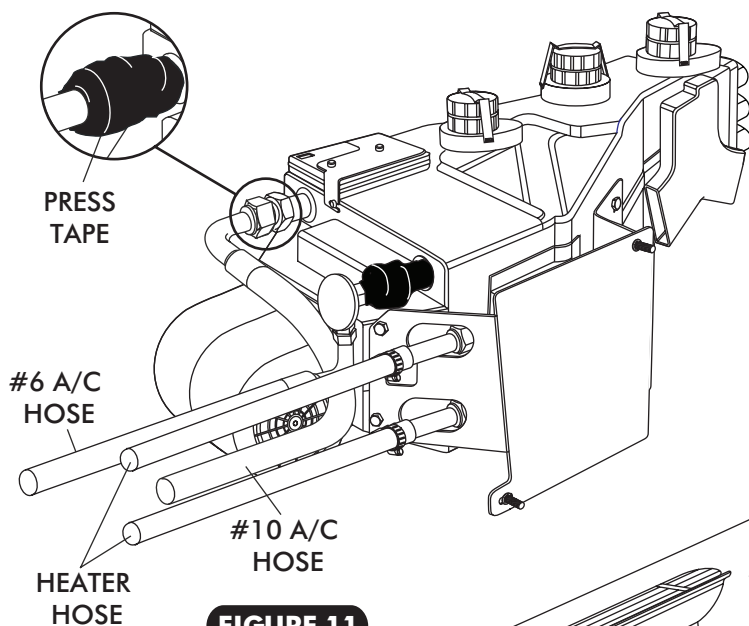
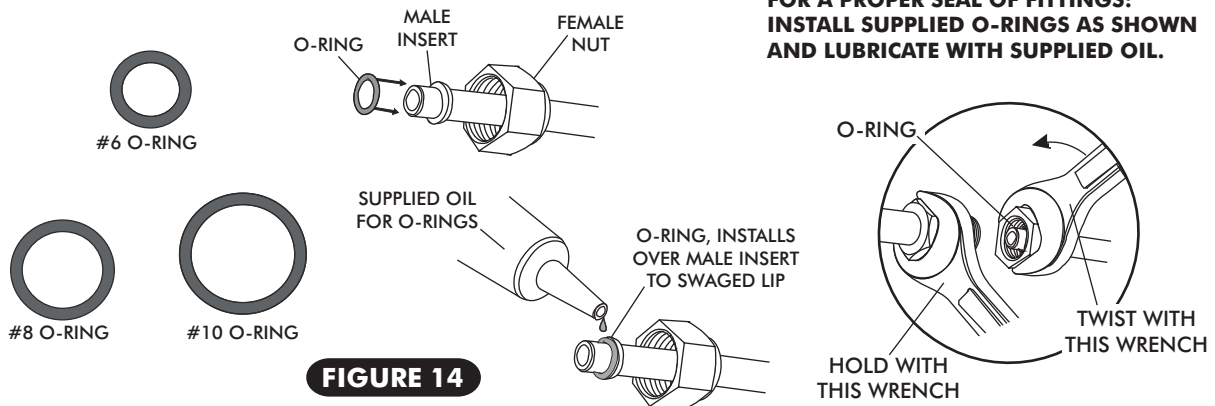

FIGURE 11
FIGURE 14
- ON A WORK BENCH INSTALL (2) HEATER FITTINGS WITH PROPERLY LUBRICATED O-RINGS. (SEE FIGURE 14, PAGE 13, AND FIGURE 8 PAGE 10.)
- LAY EVAPORATOR SUB CASE ON PASSENGER SIDE FLOOR BOARD. INSTALL A/C & HEATER HOSE ON EVAPORATOR AS SHOWN IN FIGURE 11, PAGE 12 AND HOSE INSTALLATION ON PAGE 14.
- **(NOTE: WRAP THE #10 FITTING CONNECTIONS WITH PRESS TAPE. SEE FIGURE 11, PAGE 12.)**
- ☐ LOCATE THE #8 COMPRESSOR A/C HOSE. LUBRICATE (2) #8 O-RINGS (SEE FIGURE 14, ABOVE) AND CONNECT THE 90° FEMALE FITTING TO THE #8 DISCHARGE PORT ON THE COMPRESSOR. ROUTE THE 45° FEMALE FITTING w/ 134a SERVICE PORT TO THE #8 CONDENSER HARDLINE COMING THROUGH CORE SUPPORT. SEE FIGURE 15 PAGE 14. TIGHTEN EACH FITTING CONNECTION AS SHOWN IN FIGURE 14 ABOVE.
- ☐ LOCATE THE #10 COMPRESSOR A/C HOSE. LUBRICATE (2) #10 O-RINGS (SEE FIGURE 14, ABOVE) AND CONNECT THE #10 45° FEMALE FITTING w/134a SERVICE PORT TO THE #10 SUCTION PORT ON THE COMPRESSOR. ROUTE THE 90° FEMALE FITTING TO THE #10 EVAPORATOR. SEE FIGURE 11 PAGE 12 AND FIGURE 15 PAGE 14. TIGHTEN EACH FITTING CONNECTION AS SHOWN IN 14 ABOVE.
- ☐ LOCATE THE #6 EVAPORATOR A/C HOSE. LUBRICATE (2) #6 O-RINGS (SEE FIGURE 14, ABOVE) AND CONNECT THE 90° FEMALE FITTING TO THE DRIER. ROUTE THE 90° FEMALE FITTING TO THE #6 EVAPORATOR. SEE FIGURE 11, PAGE 12 AND FIGURE 15 PAGE 14. TIGHTEN EACH FITTING CONNECTION AS SHOWN IN FIGURE 14, ABOVE.
- ROUTE A PIECE OF HEATER HOSE FROM THE WATER PUMP TO THE TOP HEATER FITTING OF HEATER CORE AS SHOWN IN FIGURE 11 PAGE 12 AND FIGURE 15 BELOW. SECURE USING HOSE CLAMPS.
- ROUTE A PIECE OF HEATER HOSE FROM THE INTAKE TO THE BOTTOM HEATER FITTING OF HEATER CORE AS SHOWN IN FIGURE 11 PAGE 12 AND FIGURE 15, BELOW. INSTALL HEATER CONTROL VALVE IN LINE WITH INTAKE MANIFOLD (PRESSURE SIDE) HEATER HOSE, SECURE USING HOSE CLAMPS AS SHOWN IN FIGURE 15, BELOW. **NOTE PROPER FLOW DIRECTION.**